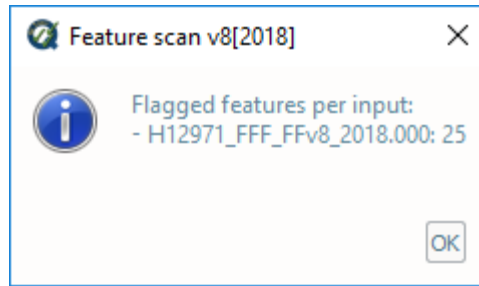

Fig. 2.26: The output message at the end of **Feature scan** execution.
- After computing, the output window opens automatically, and the results are shown (Fig. 2.26).